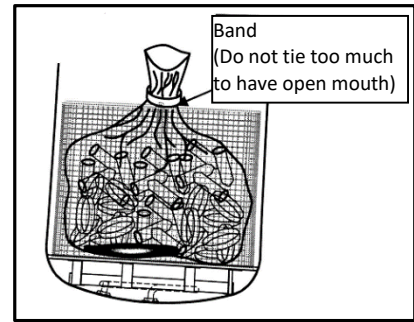

Fig.11
- If you need to close the mouth of the bag, don't tie too much to have open mouth (fig.11).